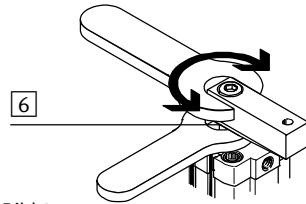

Bild 8
3. Fix the piston rod at the spanner flat 6 with a spanner wrench (see Bild 8).